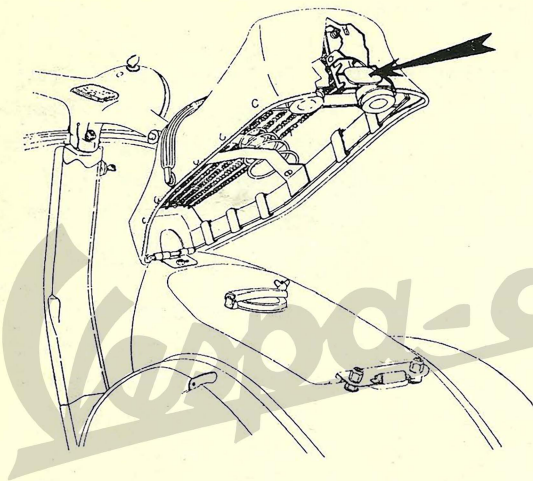

Fig. 10 — Access to the fuel tank
**Saddle.** Long dual seat which permits the driver to assume a crouched position and also provides ample and comfortable seating for a passenger. It gives remarkable comfort being packed with sponge rubber and having special steel springs. Access to the fuel tank filler cap is obtained by swinging the dual seat towards the front of the scooter (see Fig. 10).